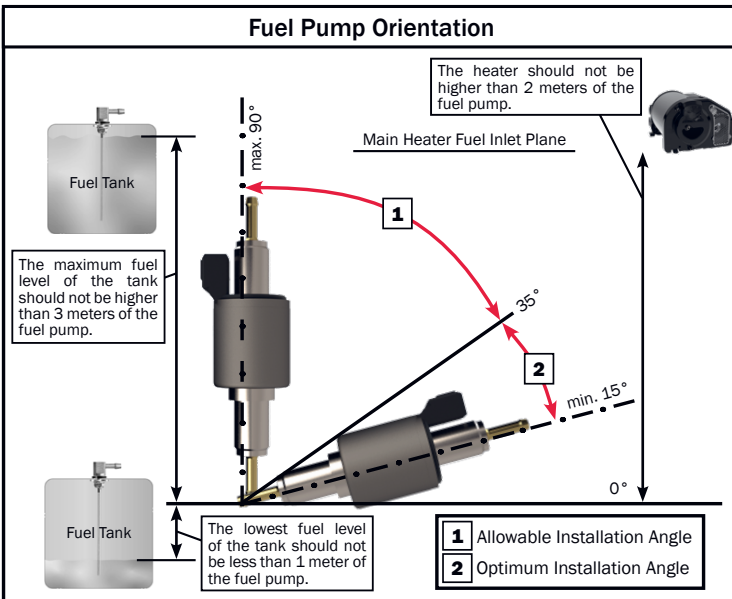

Figure 20
- Fuel Pump is required to be installed horizontally. It is not recommended to mount the assembly rotated 180° (see Figure 20).